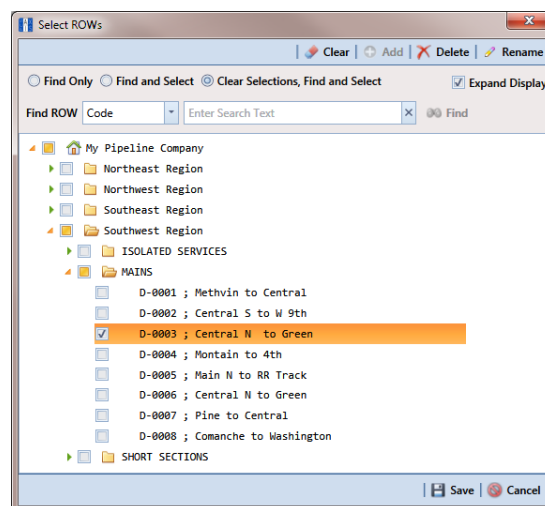

Figure 3-8. Select ROWs
- 1 Click **File > Select ROWs** to open the *Select ROWs* window. Select a pipeline in the hierarchy you want to delete (Figure 3-8).